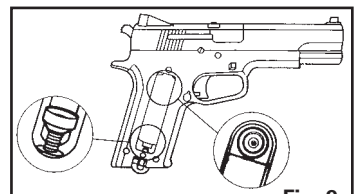

Fig. 9
**Windage Adjustment:** Turn screw clockwise to move point of impact to right and counterclockwise to move point of impact to left (Fig. 9).